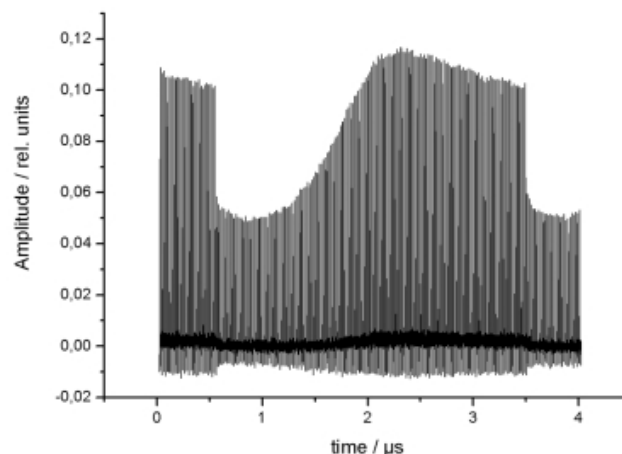

Figure B.5.: Typical intracavity pulse train in cavity dumped operation with approx. 50% diffraction efficiency
1. Switch off the CW mode at the CW button and the RF power (FR ON button) and bring the system into mode-locked operation. After switching on RF a modulation of the pulse train with a period of 50 pulses should appear on the oscilloscope. The first small pulse of this period is the diffracted pulse. The intracavity pulse then needs about 50 round trips to reach the steady state energy level again. The amplitude ratio between the diffracted pulse and its preceding non-diffracted pulse is a measure of the diffraction efficiency. Figure B.5 shows a typical intracavity pulse train from the SEED MONITOR output as seen on an oscilloscope.